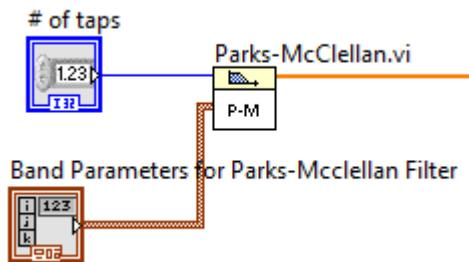

Fig. 5. Parks-McClellan filter.
- You can use **Parks-McClellan.vi** function as shown in Fig. 5.